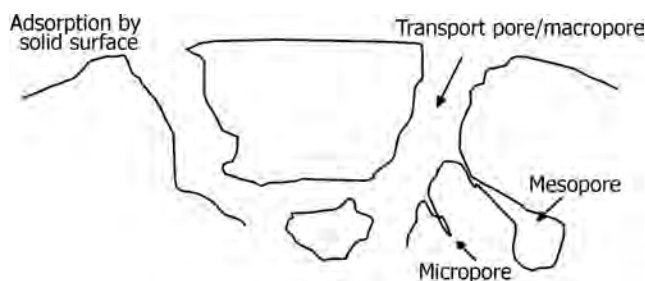

FIGURE 18.35 Types of pores on adsorbents.
- Figure 18.35 illustrates different types of pores on adsorbents.